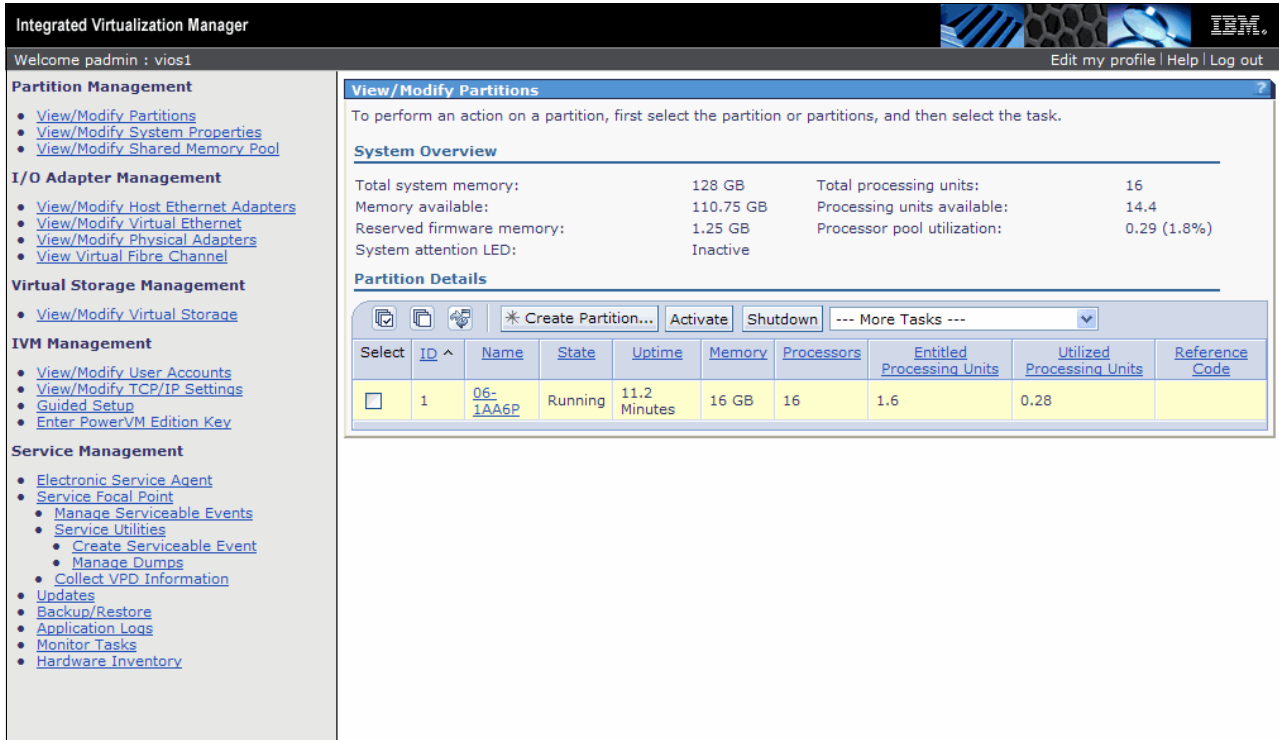

Figure 3-2 IVM (Virtual I/O Server) initial partition configuration
The first panel that opens after the login process is the partition configuration, as shown in Figure 3-2 on page 47. After the initial installation of the IVM, there is only the Virtual I/O Server partition on the system with the following characteristics:
- ▶ The allocated memory is the maximum value between 512 MB and one-eighth of the installed system memory. (In Figure 3-2, we are using a 32 GB server so it is showing 4 GB of allocated memory for the Virtual I/O Server partition).